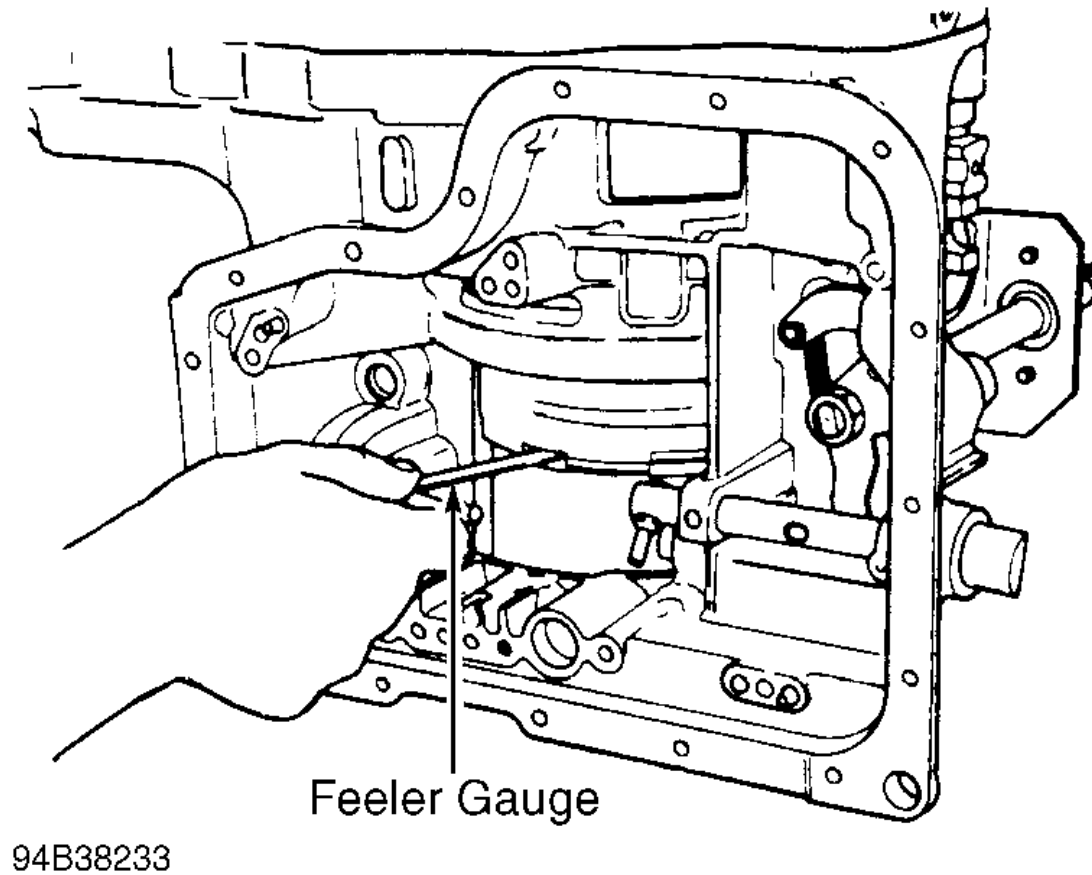

Fig. 7: Measuring Front Drum End Play
3. Using a feeler gauge, measure front clutch drum end play. See Fig. 7 . Check clearance of small slot between front clutch drum tabs and